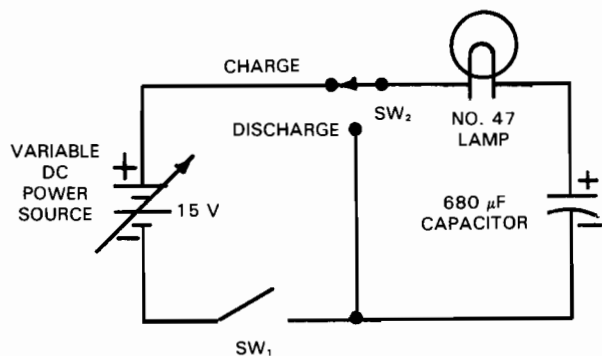

Fig. 10-2-2
10. Turn off circuit switch and change circuit to conform with Fig. 10-2-2. Note that power supply has been changed to 15 V dc.